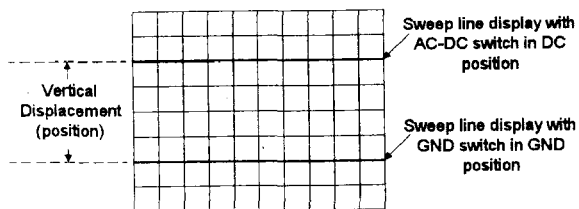
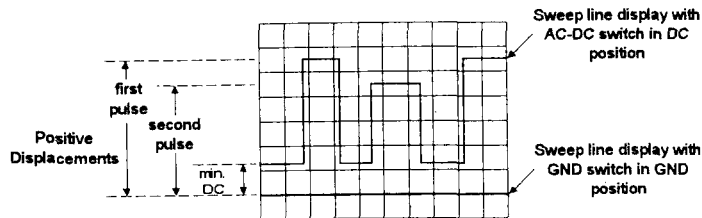

Fig. 4. DC voltage measurement
Fig. 5. DC level of waveform measurement
5. Press the AC-DC Switch to the DC position and note the sweep line displacement for a DC signal (see Fig. 4) or total signal height to the level where measurement is desired.(see Fig. 5) A vertical displacement of at least 3 divisions is suggested for optimum accuracy of measurement. The reference level may be re-checked by returning the GND switch to the GND position.
6. Calculate the displayed voltage by multiplying the number of divisions of vertical displacement times the setting of the VOLTS/DIV selector times the probe attenuation factor. For example for Fig. 4 if the VOLTS/DIV selector were set to 0.5V/div and the $\times 10$ probe used, the displayed voltage would be $5 \text{ DIV} \times 0.5\text{V/div} \times 10$ (probe factor) = 25 volts